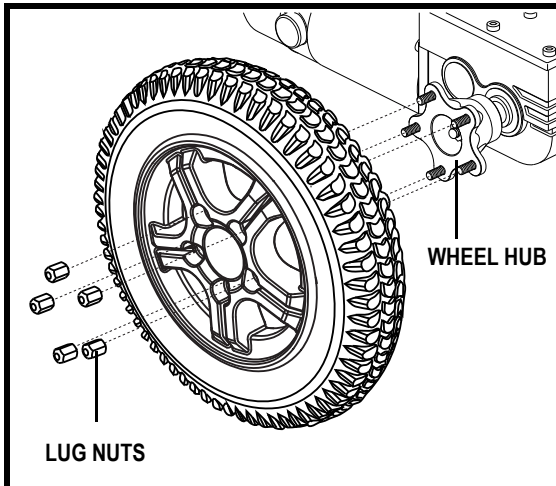

Figure 23. Quantum 600 Series Drive Wheel
4. Remove the five (5) lug nuts from the wheel hub. See figure 23.